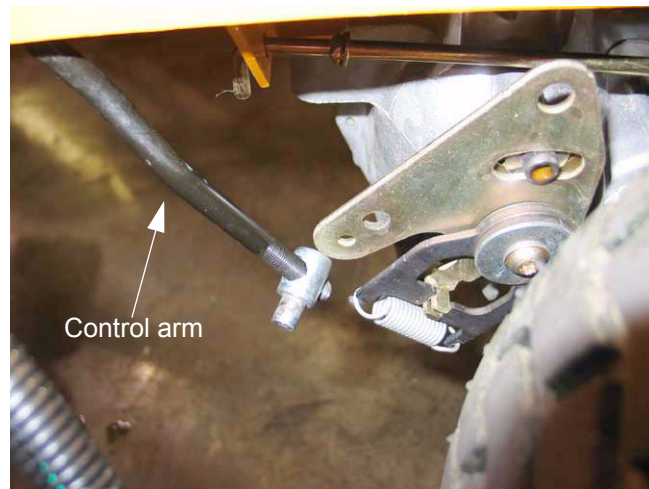

Figure 13.3
- 13.3. Disconnect the ferrule from the return to neutral assembly. See Figure 13.3.